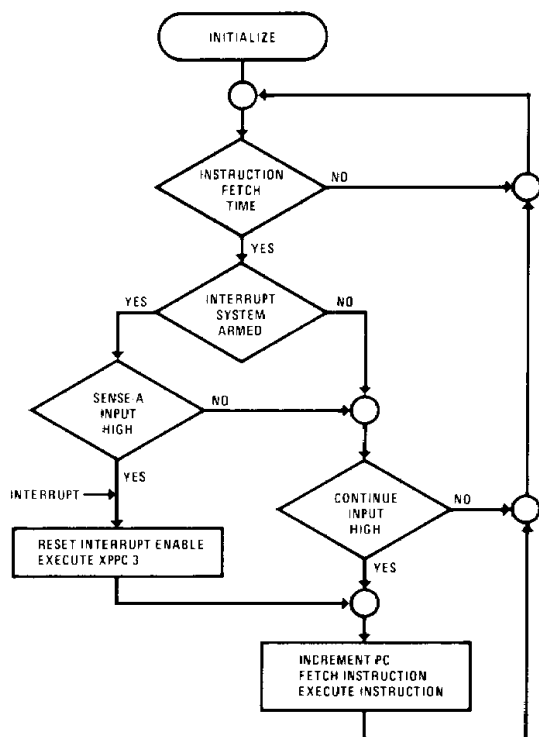

FIGURE 9.
When the internal interrupt enable (IE) flag is set under program control, the Sense A line is enabled to serve as an interrupt request input; when the IE flag is reset, SC/MP is inhibited from detecting interrupts. Thus, while the IE flag is set, the Sense A input is tested prior to the fetch phase of each instruction as shown in figure 9. Upon detection of an interrupt request (Sense A high), the following events occur automatically.
The CONT input to SC/MP is provided to enable suspension of operation without loss of internal status. Processing of the CONT input is shown in figure 9. Since this is an asynchronous input, it can be controlled by external timing logic, or as stated previously, the HALT flag output that appears on the 8-bit data bus (during the read cycle that follows execution of a Halt Instruction) can be used with an external circuit to effect a programmed halt condition. Note that when an interrupt request is detected while the CONT input is low, the first instruction of the user-generated interrupt service routine is automatically executed. Thus, the first instruction of the interrupt service routine can be used to reset the external CONT input logic and, thereby, to terminate the microprocessor halt condition if so desired.